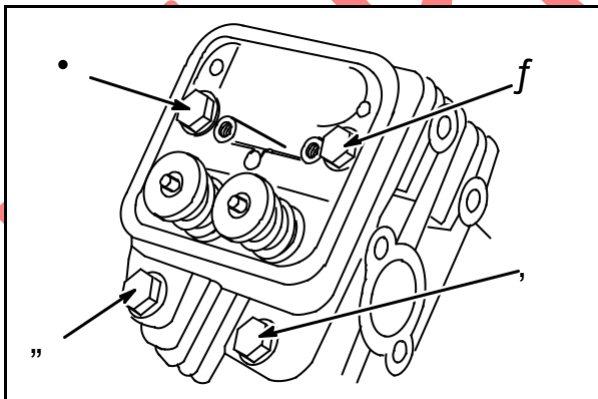

Fig. 10
1. Install cylinder head with new gasket, **Fig. 10**.